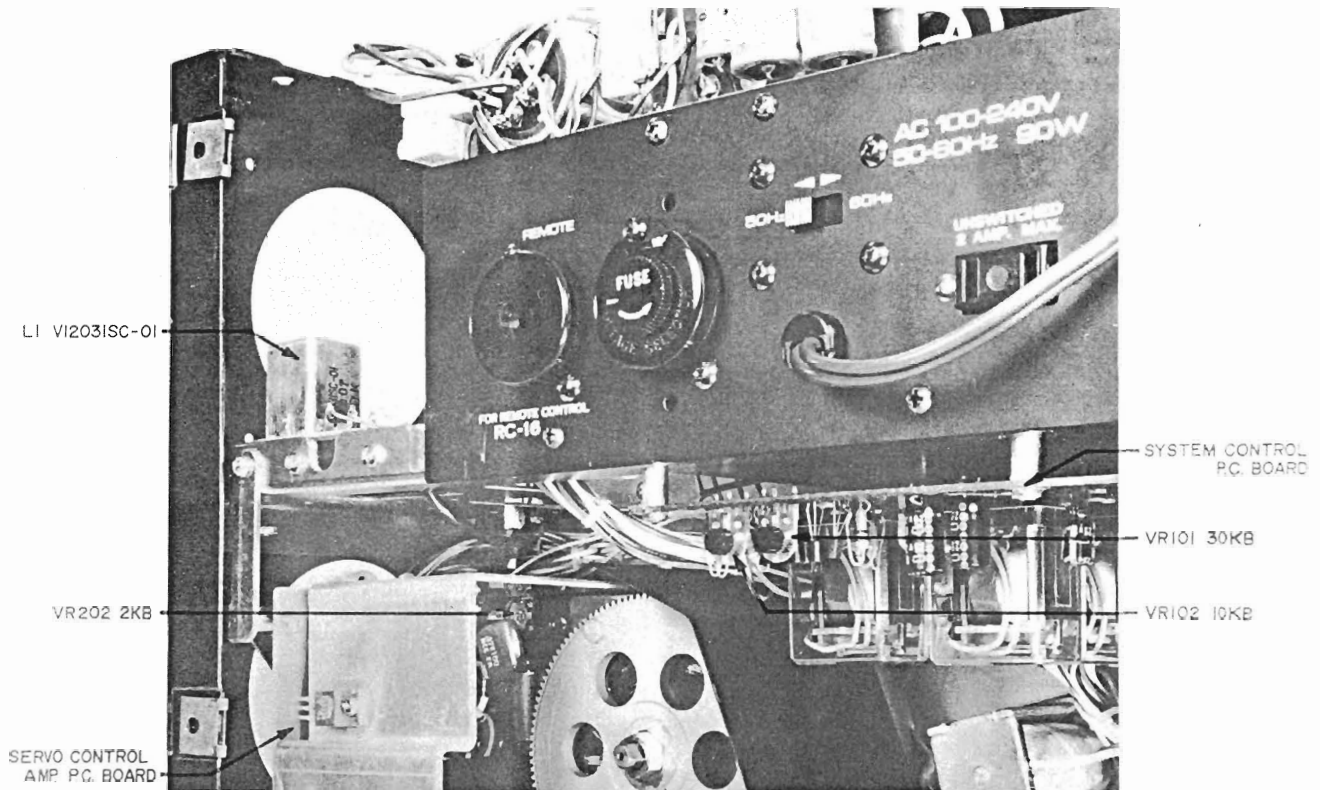

Fig. 9
- 3) Adjust the core of coil L1 (VI023SC-01) shown in Fig. 9 so that the Frequency Counter indication is 500 Hz $\pm 1\%$.
- 4) After the 3-3/4 ips (9.5 cm/sec.) tape speed adjustment has been completed, depress the 7-1/2 ips (19 cm/sec.) Tape Speed Selector and adjust Servo-Control P.C. Board semi-fixed resistor VR202 (2 kB) shown in Fig. 9 so that the frequency counter indication is 1,000 Hz $\pm 1/-0.5\%$.
Adjust System Control P.C. Board semi-fixed resistor VR101 (30 kB) shown in Fig. 9 so that when the machine is switched from FWD to REV mode or from REV to FWD mode, the pinch wheel separates from the capstan in about 3 seconds.
- 2) Adjust System Control P.C. Board semi-fixed resistor VR102 (10 kB) shown in Fig. 9 so that when the machine is switched from F.FWD or RWD to FWD or REV mode, the time constant is about 1.5 seconds.